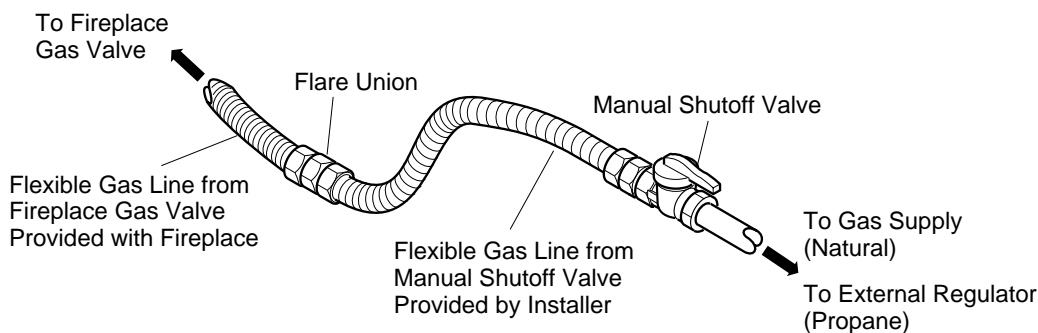

Figure 37 - Attaching Flexible Gas Lines Together
3. Attach a 45° flare union gas connector to flexible gas line from gas supply (see Figure 37). Connect flare union to flexible gas line attached to gas regulator of fireplace (see Figure 37).